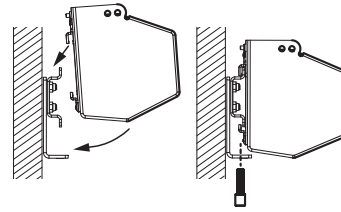

Figure 3
- ⑥ Attach Case Attachment Brackets to front brackets using 10-32 x 1/2" PPH Zinc Machine Screws (provided—see exploded diagram on page 2).
- ⑦ Mount screen case to wall brackets by slightly angling the upper slots on the Case attachment Brackets into the upper channel on the Sliding Wall Brackets, then rotating screen case into place (see Fig. 3).
- ⑧ Once the screen is placed in the desired position, secure screen case to Sliding Wall Brackets using #10-32 x 1" Pan Head Screws (provided) (see Fig. 3).